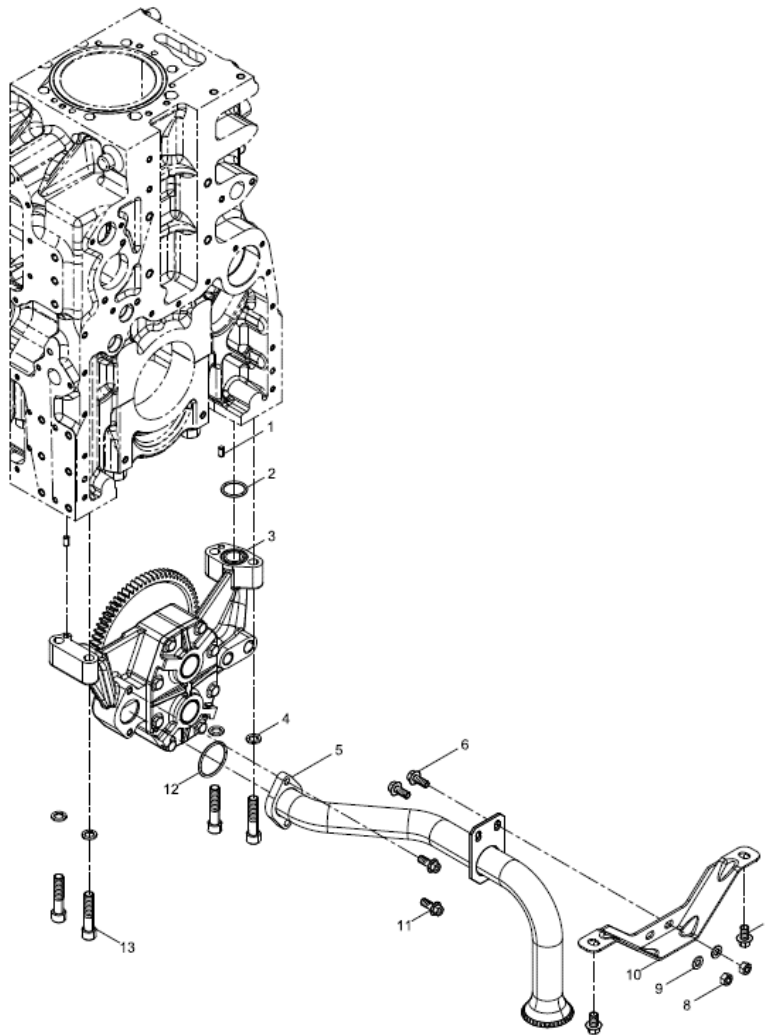

Figure 8. Oil Pump Assembly
3. Remove the four bolts and washers (Figure 8, Items 13 & 4) from under the oil pump.
4. Remove the bolt (Figure 8, Item 11) from the rear of the oil pump and remove the O-ring (Figure 8, Item 12).
5. Remove the oil pump (Figure 8, Item 3).
6. Remove both bolts from the strainer bracket (Figure 8, Item 6).
7. Carefully remove the oil strainer (Figure 8, Item 5).
1. Insert oil strainer (Figure 8, Item 5) onto the oil strainer bracket (Figure 8, Item 10).
2. Insert and tighten both bolts (Figure 8, Item 6).
3. Install a new O-ring (Figure 8, Item 12) and tighten bolt (Figure 8, Item 11) on the oil pump.
4. Insert new O-rings (Figure 8, Item 2) on top of the oil pump.
5. Insert and tighten down the four bolt and washers (Figure 8, Items 13 & 4) from the bottom of the oil pump.